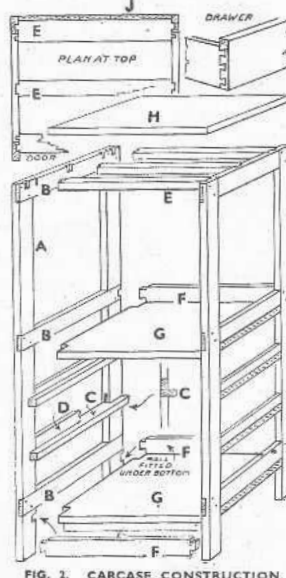

FIG. 2. CARCASS CONSTRUCTION.
Carcass.—Dealing first with the two framed ends, the strongest construction is to tenon the three rails (B) to the stiles (A). In a less pretentious way the joints may be halving ones as shown (Fig. 2). Before screwing, however, tongue in the drawer guides (D) to which the runners (C) are screwed from below. Note that the runners are cut to fit around stiles, and that at front they are sawn short to allow for the thickness of drawer front. Test both ends for squareness and see that both are exactly alike.